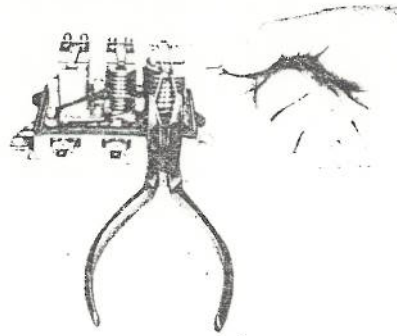

Fig. 10-65
- (5) Adjust the point gap by adjusting the cut-out relay contactor. (See Fig. 10-65)